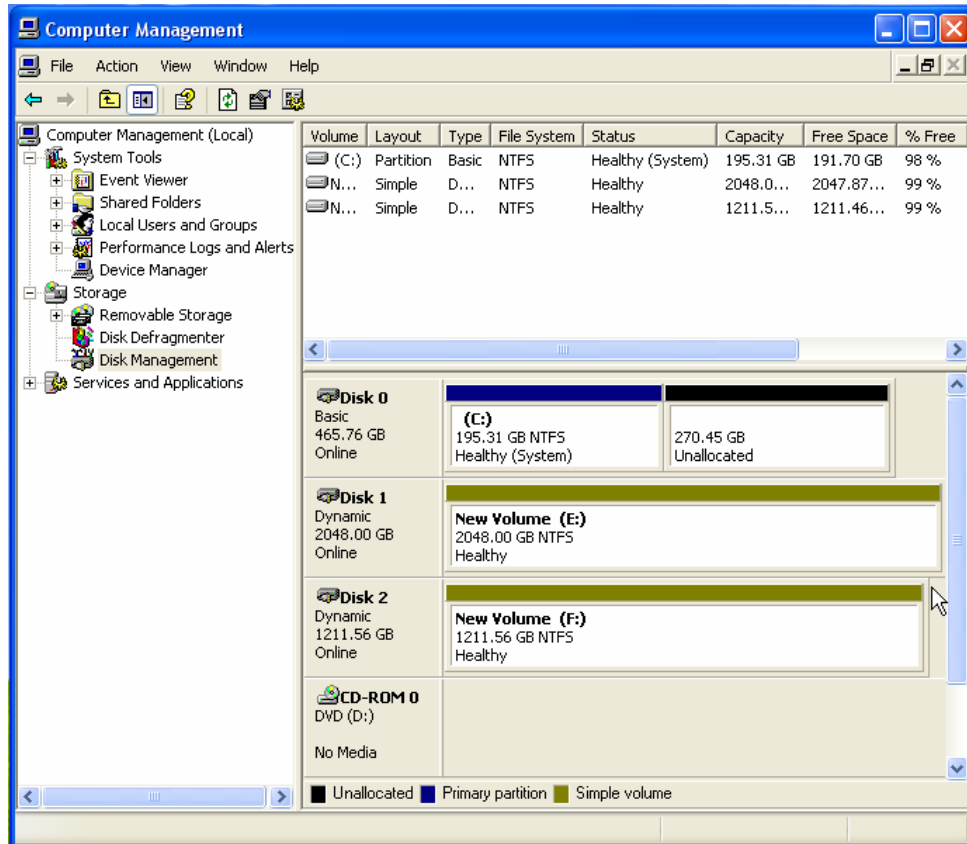

Figure 5-13
- 13) Click the **OK** button to accept the **Foreign Disk Volumes** dialog. Assuming that the TeraPac 3 array has been formatted (as will be the case if it was shipped from MaxVision), the array will automatically be assigned drive letters as illustrated in Figure 5-13. In this case the array is ready to use. (If you've recently re-built the array and it is not automatically assigned a drive letter, you will have to format the array at this point – this is just like formatting a regular hard drive.)